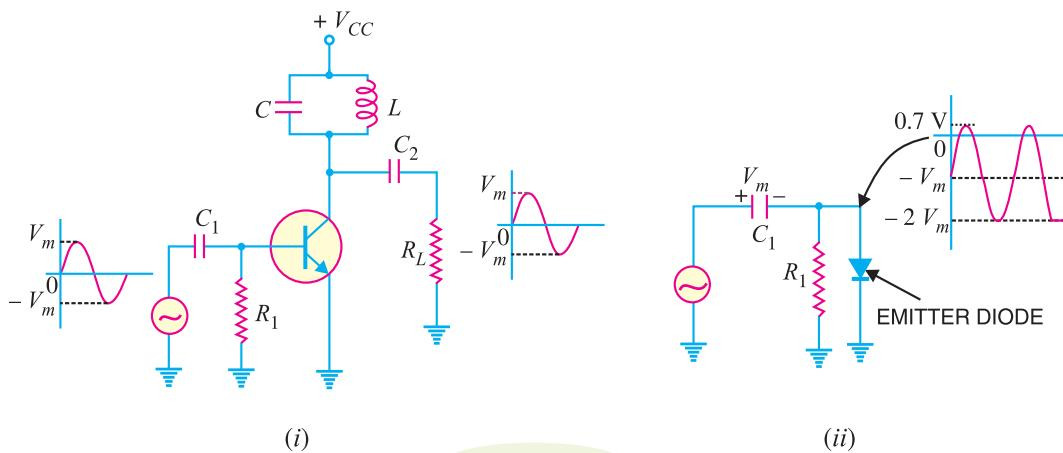

Fig. 15.18
- (ii) When an a.c. signal is applied, *clamping action* takes place as shown in Fig. 15.18 (ii). The voltage across the emitter diode varies between  $+0.7$  V (during positive peaks of input signal) to about  $-2V_m$  (during negative peaks of input signal). This means that conduction of the transistor occurs only for a short period during positive peaks of the signal. This results in the pulsed output *i.e.* collector current waveform is a train of narrow pulses (Refer back to Fig. 15.17).